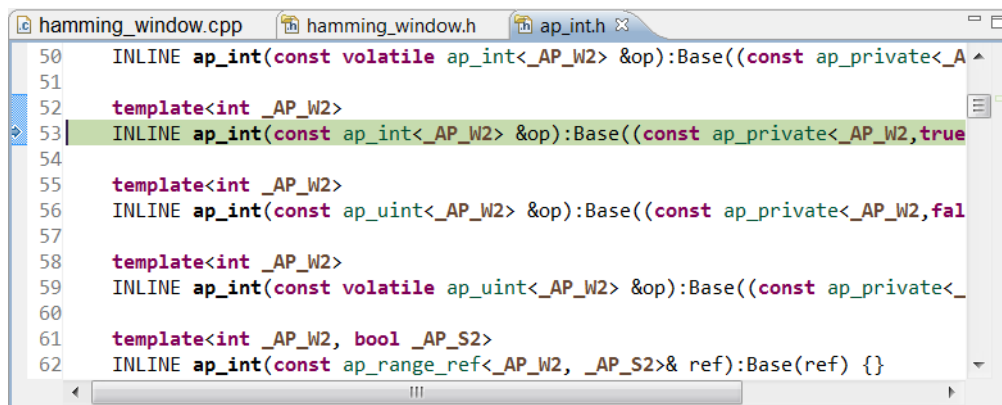

Figure 3-20: Arbitrary Precision Header File
- Click the **Step Into** button (or press the **F5** key) twice to see the view in Figure 3-20.